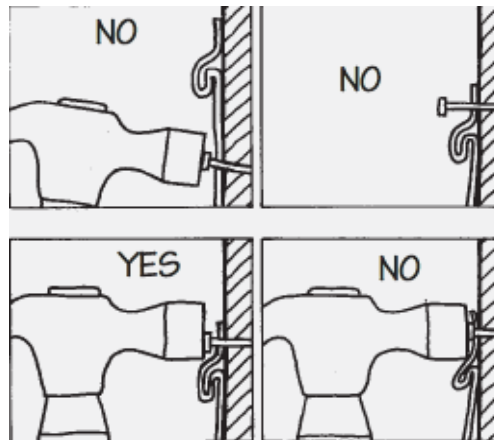

Figure 11-7. Siding Nail Head Gap.
1. Vinyl siding expands and contracts due to temperature changes. Never drive nails tight. The siding panels must hang on the nails and be permitted to move from side to side. Leave a 1/8" gap (the thickness of a nickel) between the nail head and the siding slot (see Figure 11-7).